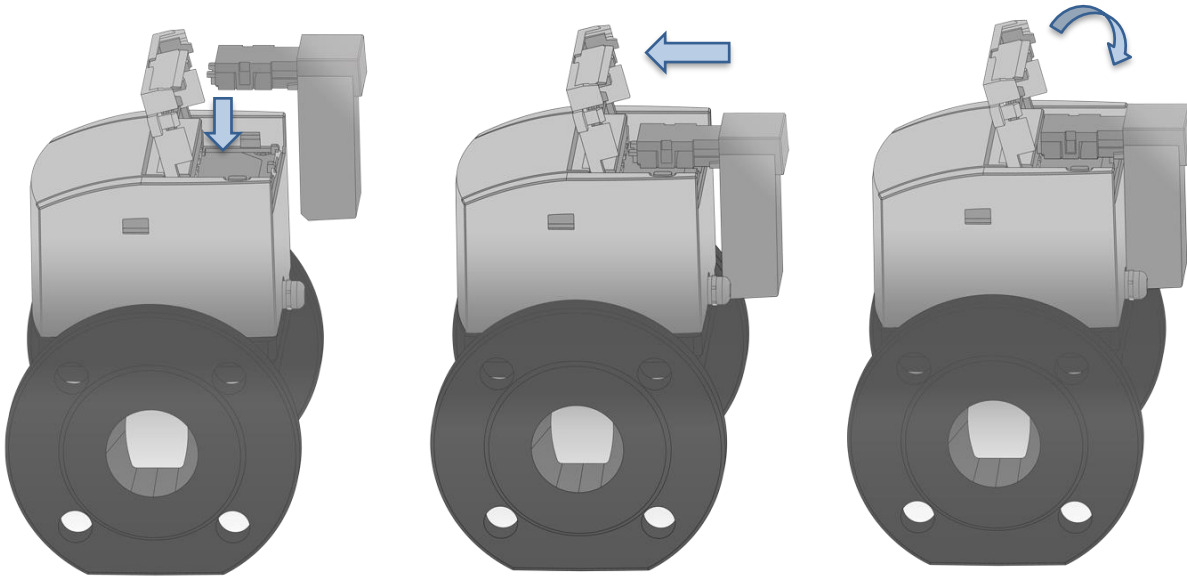

Figure 28: Inserting module, pushing it into place and closing the module lid
Step 3: Mounting of a communication module, as shown in **Figure 28**.